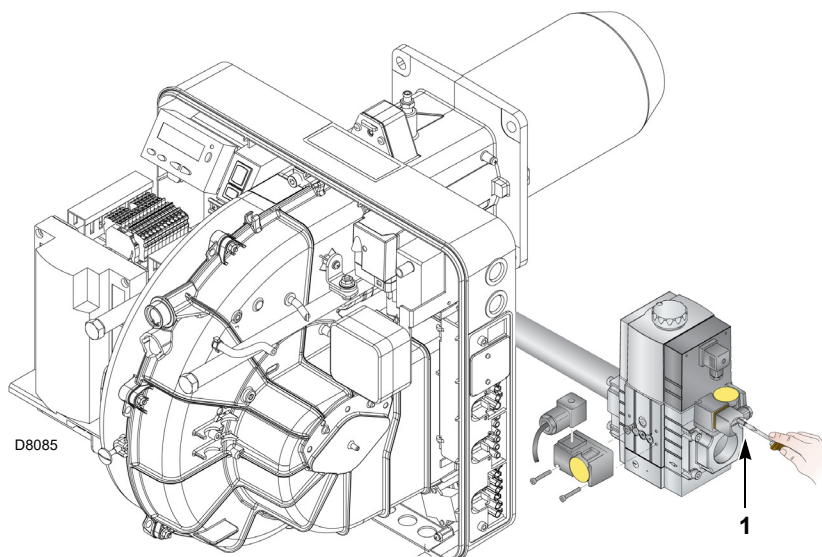

Fig. 30
- Bleed the air from the piping of the gas train, connecting a plastic tube to the pressure test point 1)(Fig. 30) of the minimum gas pressure switch.